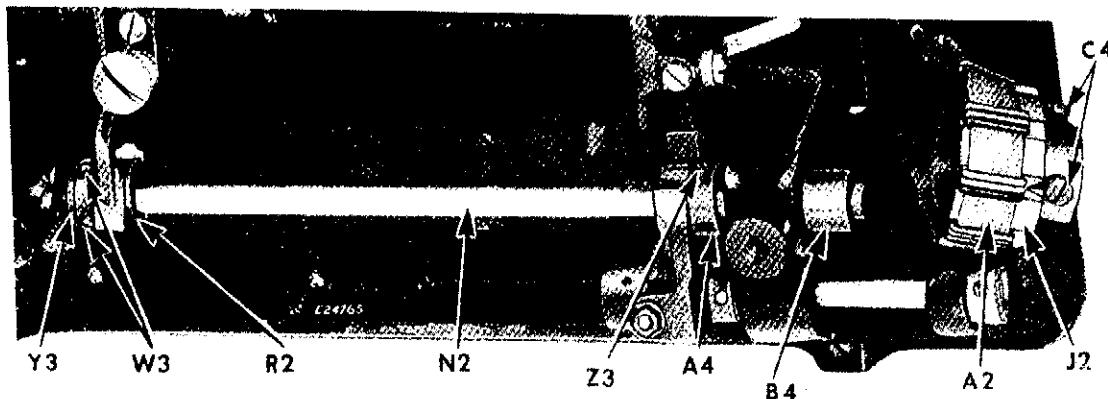
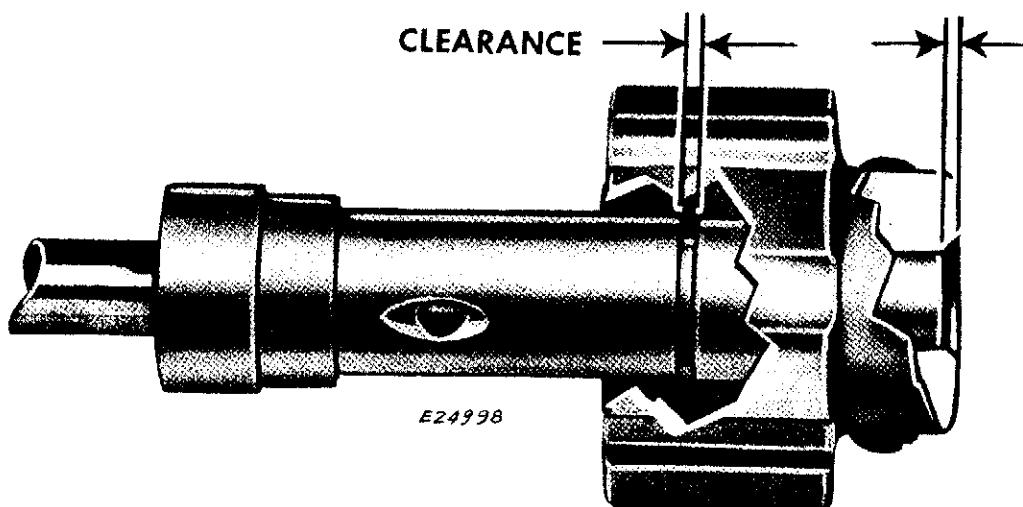

Fig. 52. Removing Sprocket and Hook Driving Shaft
Fig. 56. Lower Sprocket Clearance for Heat Expansion
Sprocket set too close to rear bearing bushing. See **Fig. 56**.
Never take up end play by bringing feed advance eccentric **A4**, **Fig. 52** against rear leg bearing.
2. Loosen sprocket screws **C4**, **Fig. 52.**
3. Mount feed advance eccentric with collar **A4**, **Fig. 52.** Collar must be set close to fork without rubbing against jaw of fork to avoid binding of machine from heat expansion.
**NOTE:** To avoid binding at end of bushing **B4** and sprocket **J2**, due to heat expansion, see **Fig. 56.**
**NOTE:** The end of hook driving shaft, toward the lower sprocket containing belt A2, Fig. 52, must be flush with the inside edge of the countersinking of the lower belt sprocket shaft hole to allow for 1/16 to 3/32 inch clearance for heat expansion as shown in Fig. 56.